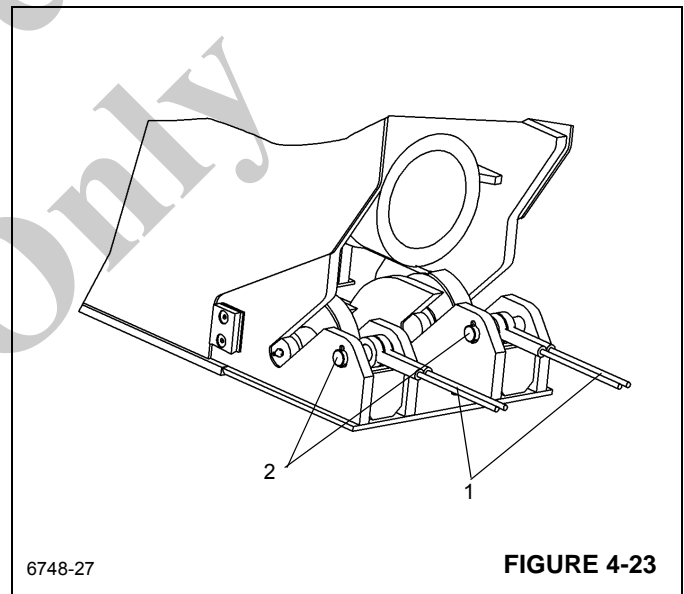

FIGURE 4-23
11. Continue to pull the assembly from the inner mid section until access to the rear of the outer mid is gained to disconnect the four **retract** cables (Figure 4-23, 1).
12. Remove the cotter pins and pins (Figure 4-23, 2) securing the four retract cables to the rear of the outer mid.